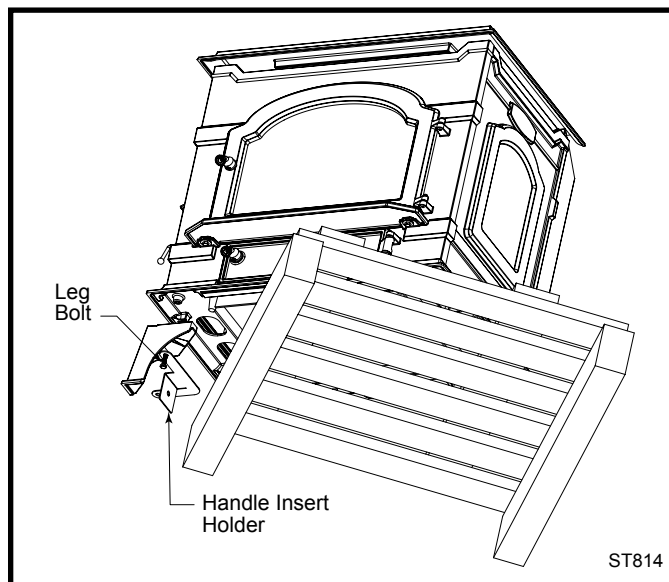

Fig. 20 Rotate stove on pallet to expose front left corner.
2. Rotate the stove counterclockwise until the front left corner overhangs the pallet and the leg-mounting hole is accessible. (Fig. 20)
3. Remove and discard the (4) ⅝-16 x ½" round head bolts that are in the leg holes on the bottom of the stove.